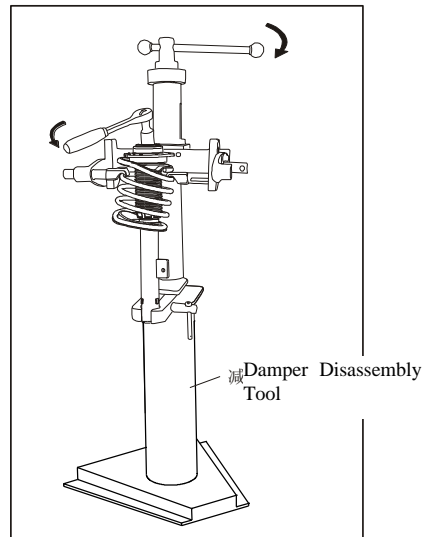
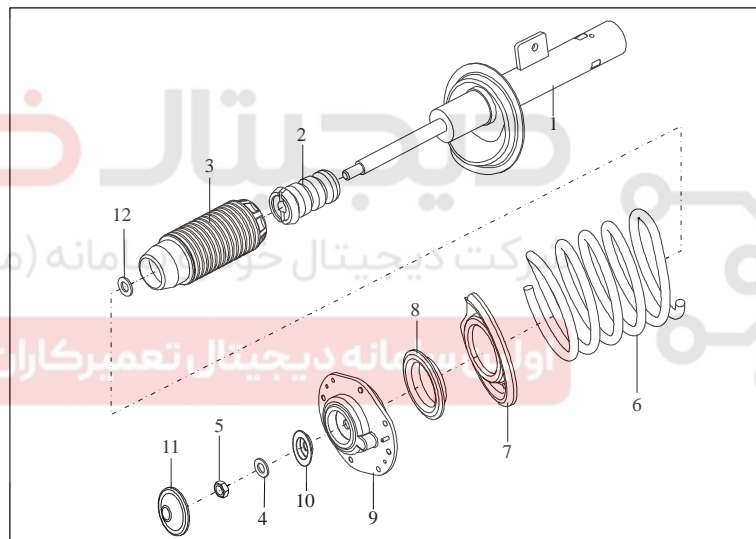

Figure 4-14 Disassembly and Assembly of Front Suspension Damper
Figure 4-15 Front Suspension Damper Parts
The disassembly of front suspension damper shall be carried out on tools like spring compressor. When disassembling it, just fix the special service tool on a bench clamp (as shown in Figure 4-14), insert the upper and lower compression forks into the upper and lower part of spring, pull the screw mandrel to tighten up the compression forks, compress the suspension spring with compressor until the end fixing nut can be removed, and then remove the end fixing nut with a wrench. Thereafter, slowly loosen the spring compressor, disassemble the front suspension damper, and take down the upper spring bracket, protective tube, thrust ball bearing, dust cover and other parts. Parts after disassembly are as shown in Figure 4-15.
- (4) Use a bench clamp to fix the special service tool (spring compressor) (as shown in Figure 4-14), and then install the suspension spring and compress spring.
- (5) Install the spring upper bracket 5, thrust ball bearing 6, upper bracket 7, upper mounting cover 8, washer 9 and lock nut 10 one by one (as shown in Figure 4-15), and then tighten up the fixing nuts with the torque of 45N·m.
- (6) After assembly, slowly loosen the spring by loosening the spring compressor, and the spring should be maintained between the upper and lower brackets.